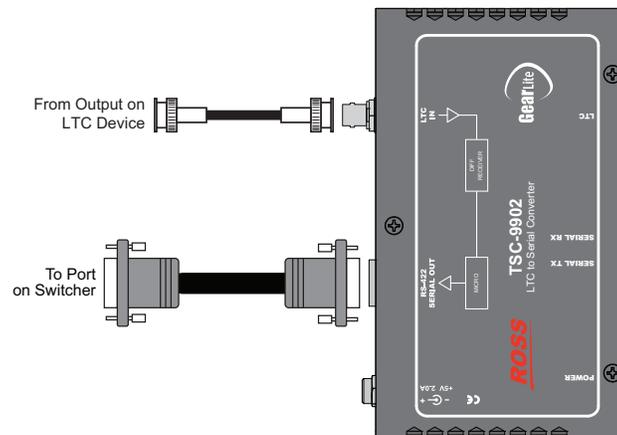

Figure 5.1 TSC-9902 Cabling — LTC Device to Production Switcher
2. Connect and secure the **9-Pin, Male** end of the **Interface Cable** to the **RS-422 Serial** port on the TSC-9902 (**Figure 5.1**).